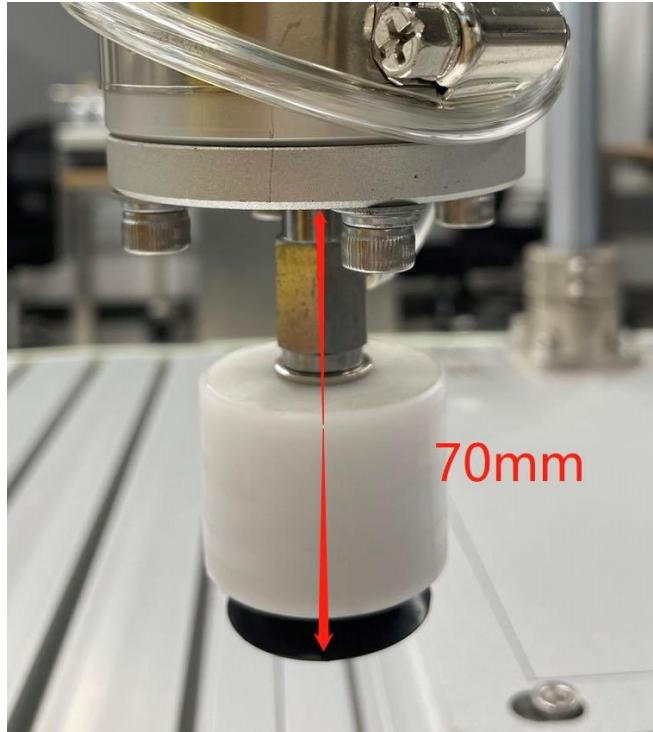

Figure 3.6: Approximate Dimensions of the attached end effector plate and suction gripper in mm.
- Figure 3.6 shows the dimensions of the end effector including the aluminum plate and suction gripper.